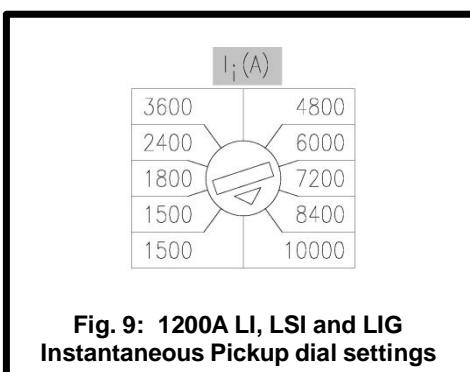
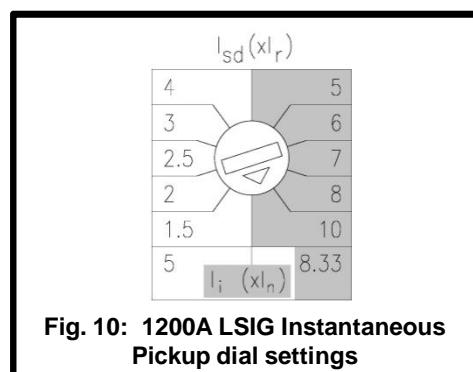

Fig. 9: 1200A LI, LSI and LIG Instantaneous Pickup dial settings
Fig. 10: 1200A LSIG Instantaneous Pickup dial settings
All model types have an adjustable Instantaneous Pickup setting. This adjustment sets the Instantaneous Overcurrent Pickup of the circuit breaker. For LI, LSI, and LIG breakers (see Fig. 9), there are ten (10) Instantaneous Pickup settings that are displayed in Amps. For LSIG breakers (see Fig. 10), there are two Instantaneous Pickup settings which are selected based on the Short Time Pickup setting. These two settings are a multiple of the maximum Frame Rating (I_n). As shown in Fig. 10, the Short Time Pickup settings on the left select an Instantaneous Pickup of $5 \times I_n$ and the Short Time Pickup settings on the right select an Instantaneous Pickup of $8.33 \times I_n$.